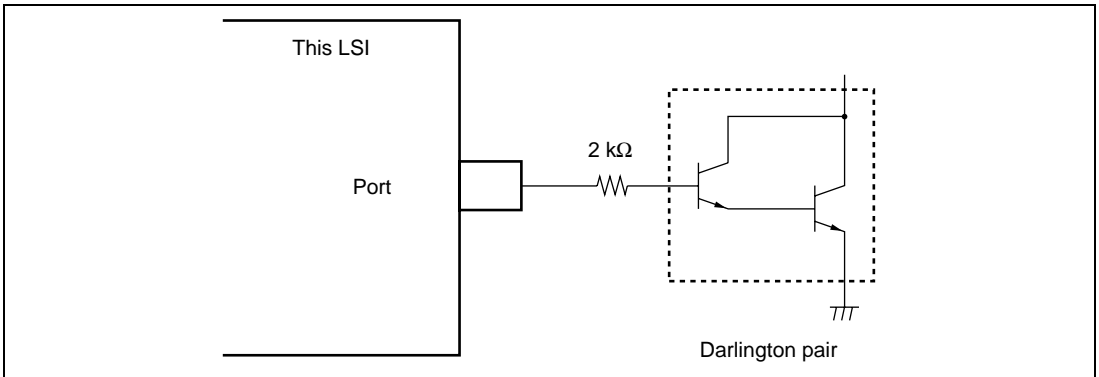

Figure 28.1 Darlington Pair Drive Circuit (Example)
2. When driving a Darlington pair or LED, always insert a current-limiting resistor in the output line, as show in figures 28.1 and 28.2.